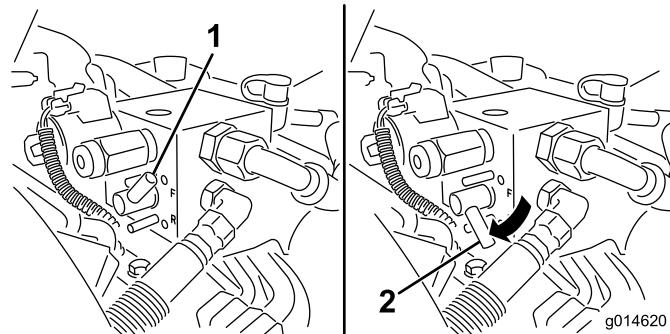

Figure 53
5. Rotate the Backlap Lever to the reverse (R) position (Figure 53).